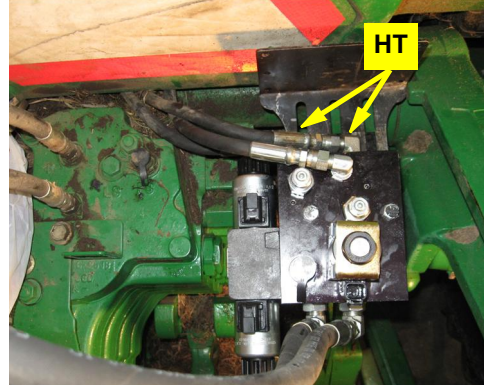

Figure 6f: Steering hoses connected at steering block A and B ports (LS hose also shown connected)
f. Connect the steering hoses **HT** to the **A** and **B** ports of the hydraulic steering block mounted in step 4 (Figure 6f). Securely tighten all steering output hose fittings, both at the front run-tees and at the rear block.